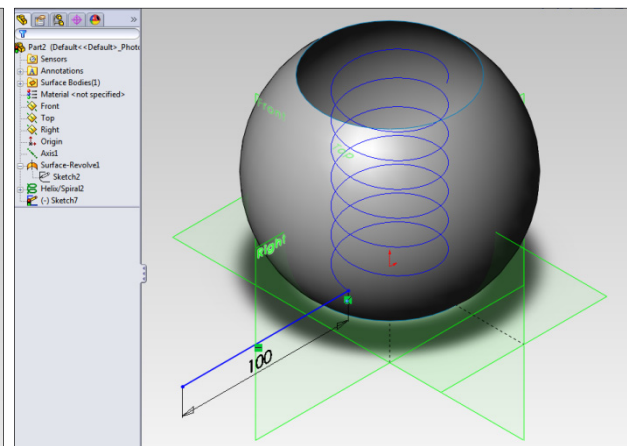

Fig.6
5. In **Right** plane **Sketch**  profile for helix surface : Fig.6